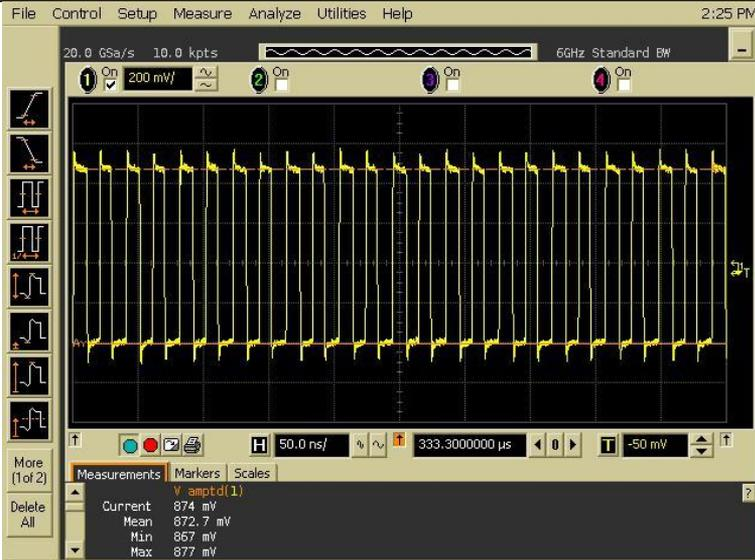

Figure 37 - Small Section of IEEE-1394b (beta) Tone
6. The scope should now be triggering on tones (~50Mhz ~50% duty cycle square wave) and displayed to the screen (please see Figure 37).